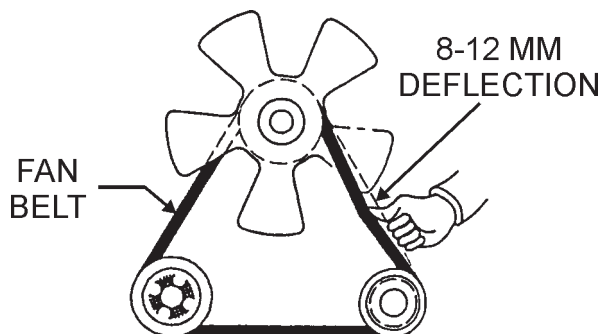

Figure 19. V-Belt Deflection
3. Check the V-belt tension (Figure 19) by pushing midway through the two pulleys. The V-belt deflection should be between .300 to .472 inches (8 to 12 mm).